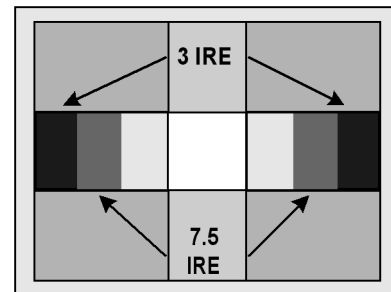

Figure 22. Sub-bright adjustment
2. Adjust B2 until the 7.5 IRE section looks same as 3.0 IRE section as seen in Fig. 22.